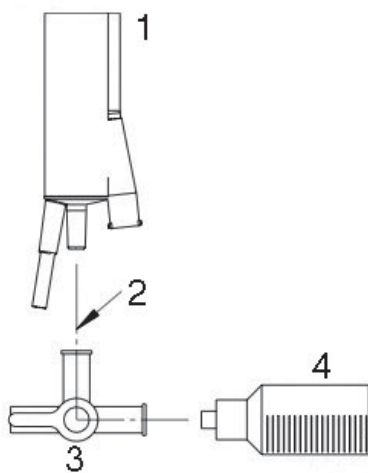
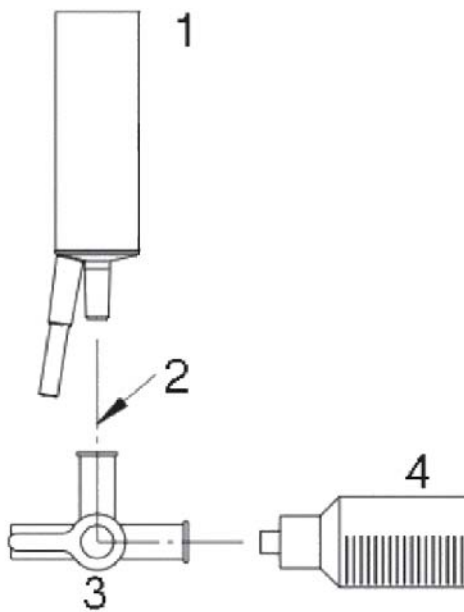

Figure 5.6. Flushing Aspiration Lumen (Ultrasound Handpiece).
Figure 5.7. Flushing Aspiration Lumen (Fragmentation Handpiece).
- D. Flush the aspiration lumen as follows (see Figure 5.6 and Figure 5.7 below):